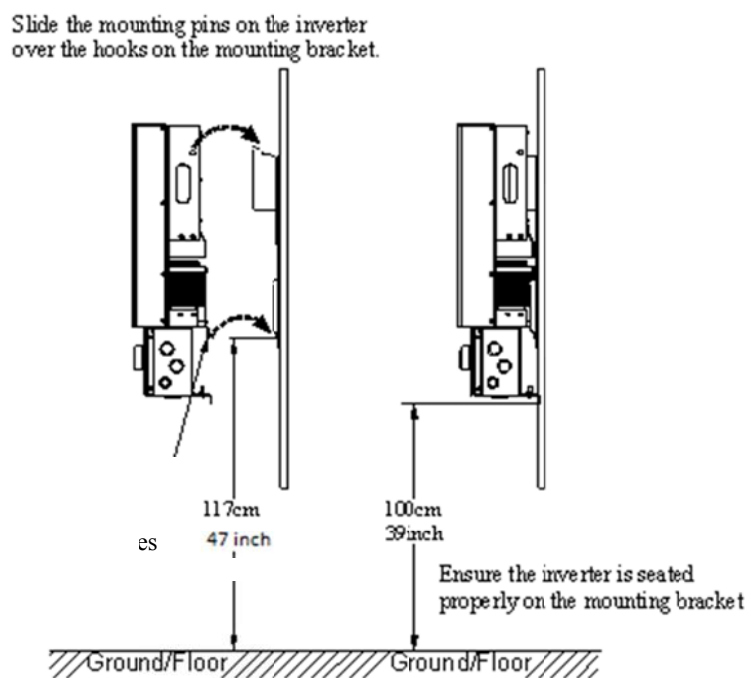

Fig 2.2.7 Mounting Inverter on bracket
2. Once the mounting bracket is fastened to the wall, the inverter and the wiring box can be hooked onto the bracket and slipped down into place. Make sure the lower lip on the bracket hooks into the window on the back of the inverter as shown in Fig. 2.2.7.